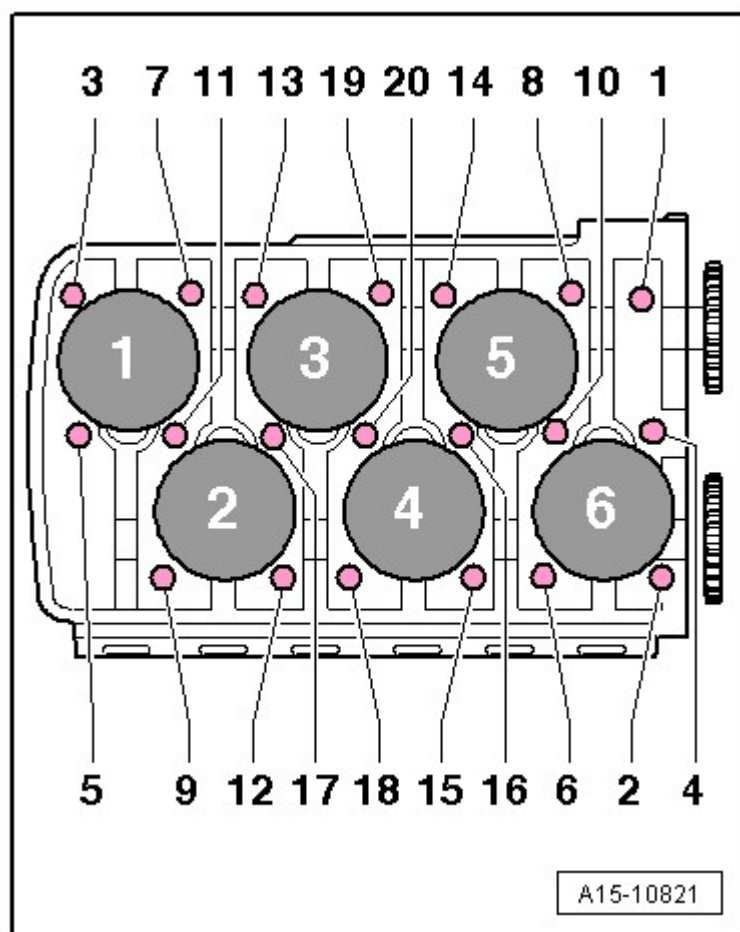

Fig. 3: Loosening Cylinder Head
- Observe sequence for loosening, refer to **Fig. 3**